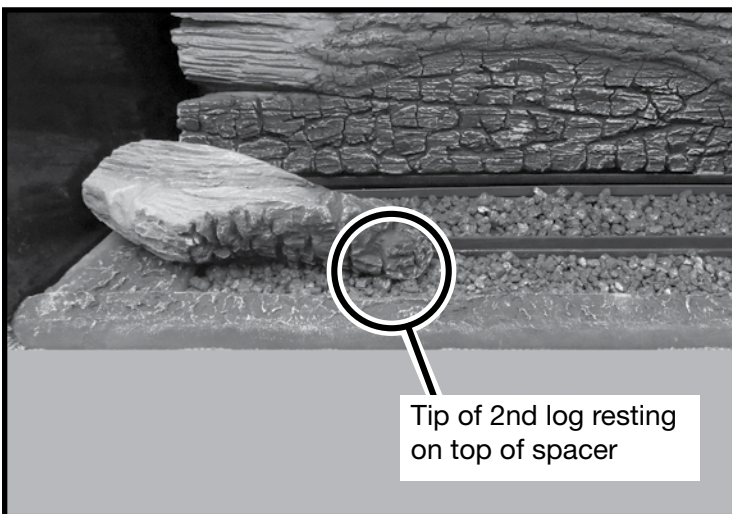

Figure 76: 2nd log on top of support.
10. Place log number two (Figure 56) so that the post protruding from the bottom of the log can be inserted into the hole of the left base piece. Then position the front of the log so that it rests on top of the spacer (Figure 76). The log and the vermiculite should ideally hide the spacer.